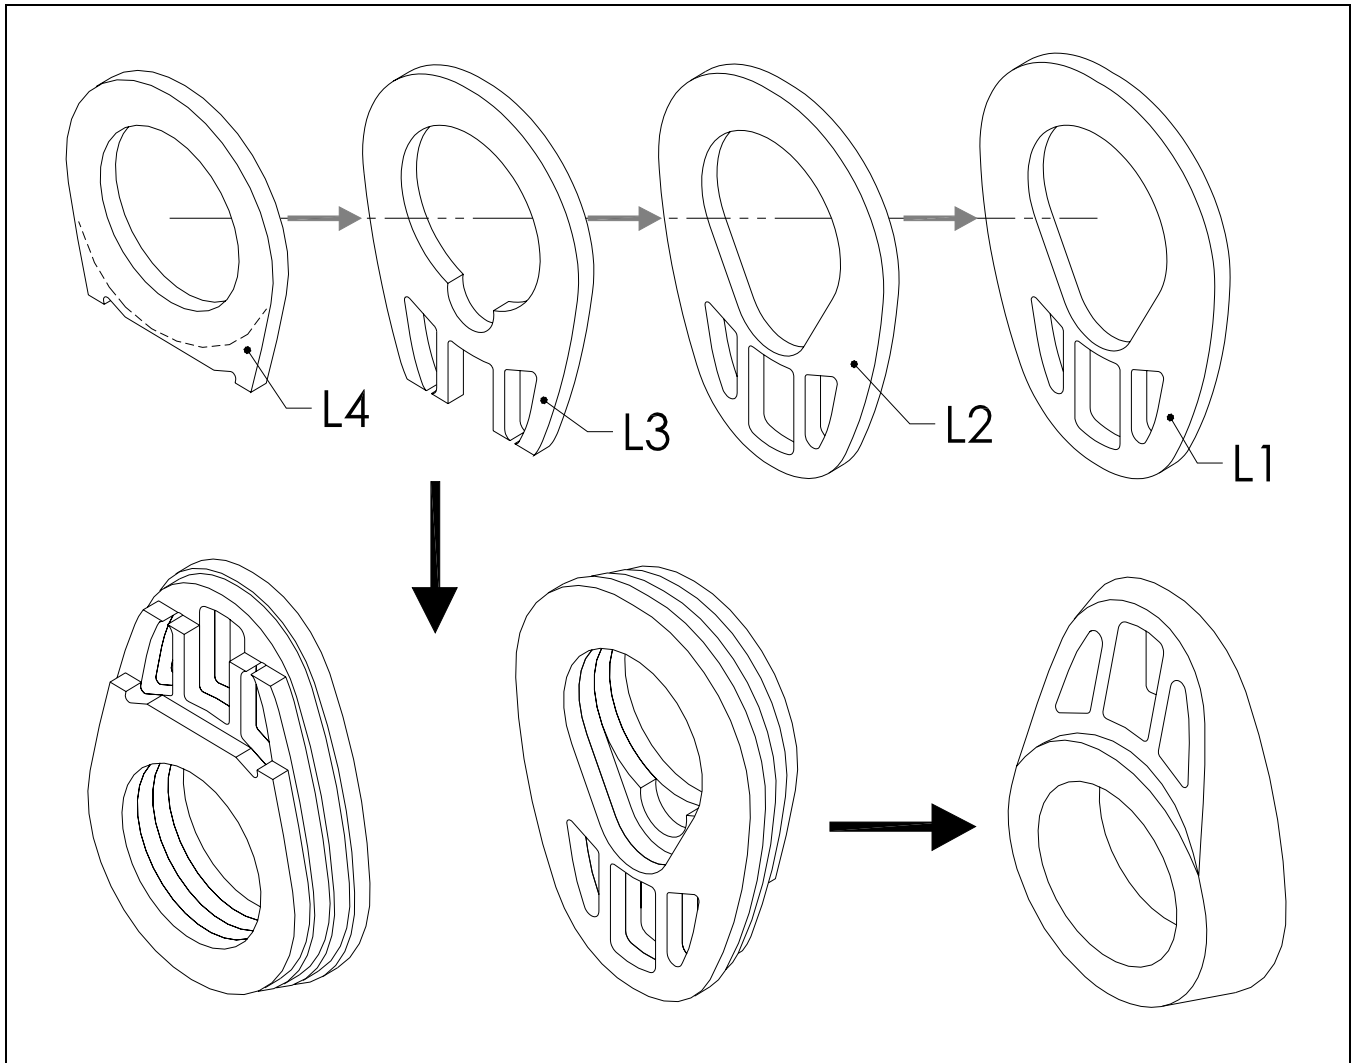

Figure 10
- ❑ Glue **L1**, **L2**, **L3**, and **L4** together as shown in Figure 10 with wood glue.
- ❑ Sand the lamination of **L1**, **L2**, **L3**, and **L4** to the final shape shown in Figure 10. The engraved dashed line on **L4** is a guide to aid in the sanding process.